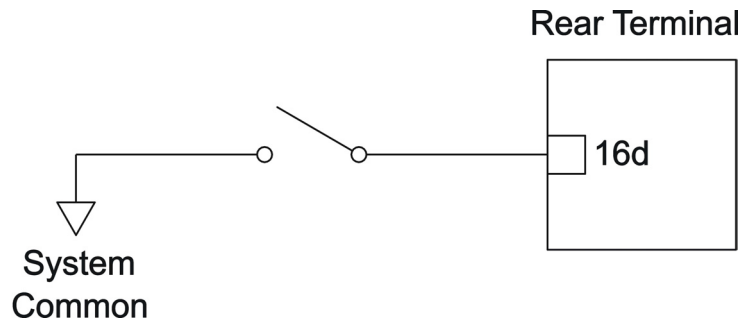

Figure 9
Figure 9 is a block diagram that shows the switch connections for the **Card Test** feature.
- The Card Test input consists of a single termination for remote testing of the Model TA402A's functions. For detailed information on the Card Test, refer to Figure 9.
The Card Test Input is provided so that the user can access the Card Test feature remotely. One end of a normally open SPST switch is connected to this termination and the other end is connected to system common (see Figure 9).